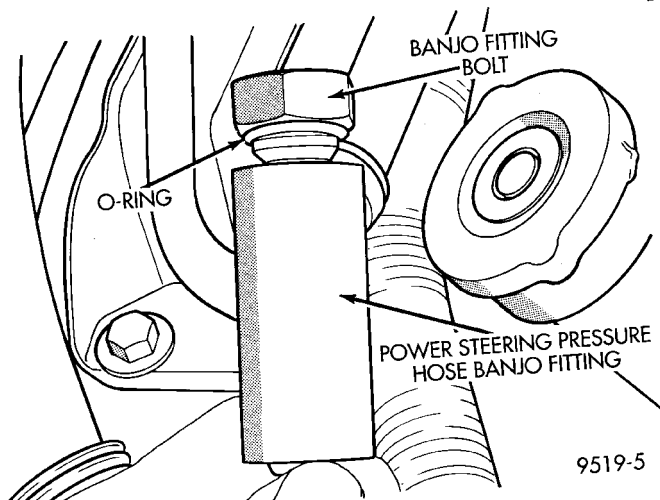

Fig. 14 O-ring Installed On Banjo Fitting Bolt
- (4) Install a new O-ring (Fig. 14) on power steering pressure hose banjo fitting bolt.
- (5) Lubricate both O-rings using fresh clean power steering fluid.
- (6) Install banjo bolt into the power steering pressure hose banjo fitting (Fig. 14).